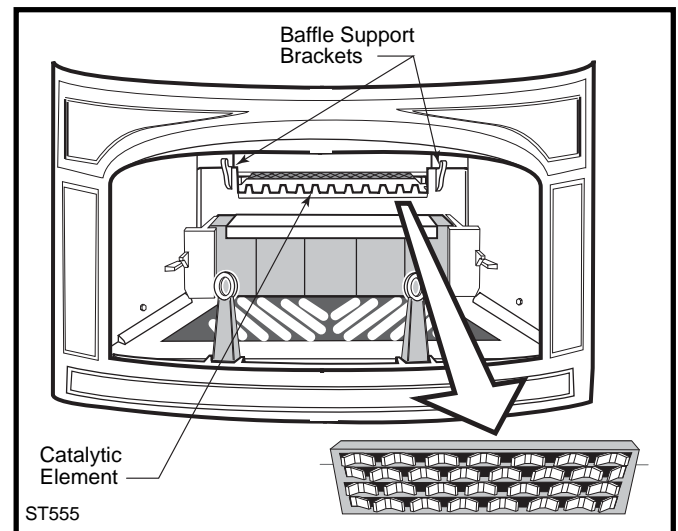

Fig. 36 Lift the baffle off its supports to inspect the catalyst.
1. Lift the baffle off its support brackets, and then remove it from the stove and place it on a protected surface. (Fig. 36)